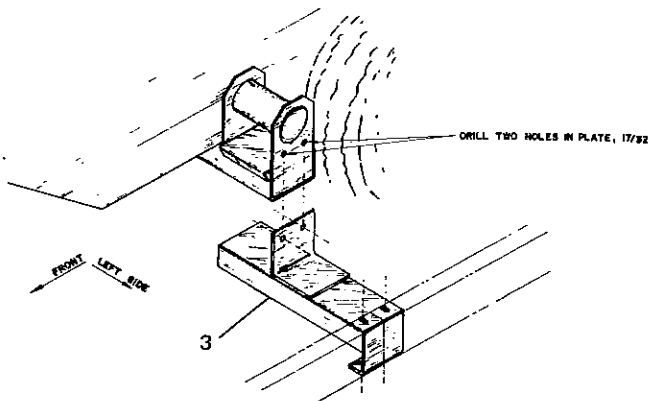

Figure 37 — Front Idler Hub Mount
1. Center front idler hub mount (3, Figure 37) to underside of channel and clamp in place. Drill two 17/32 dia. holes through plate as shown. Bolt in place.
4. Attach rear rail (2, Figure 40) to front idler hub (3, Figure 37). Clamp rear idler hub mount (1, Figure 40) in place and drill (2) 17/32 dia. holes through channel. Bolt in place.